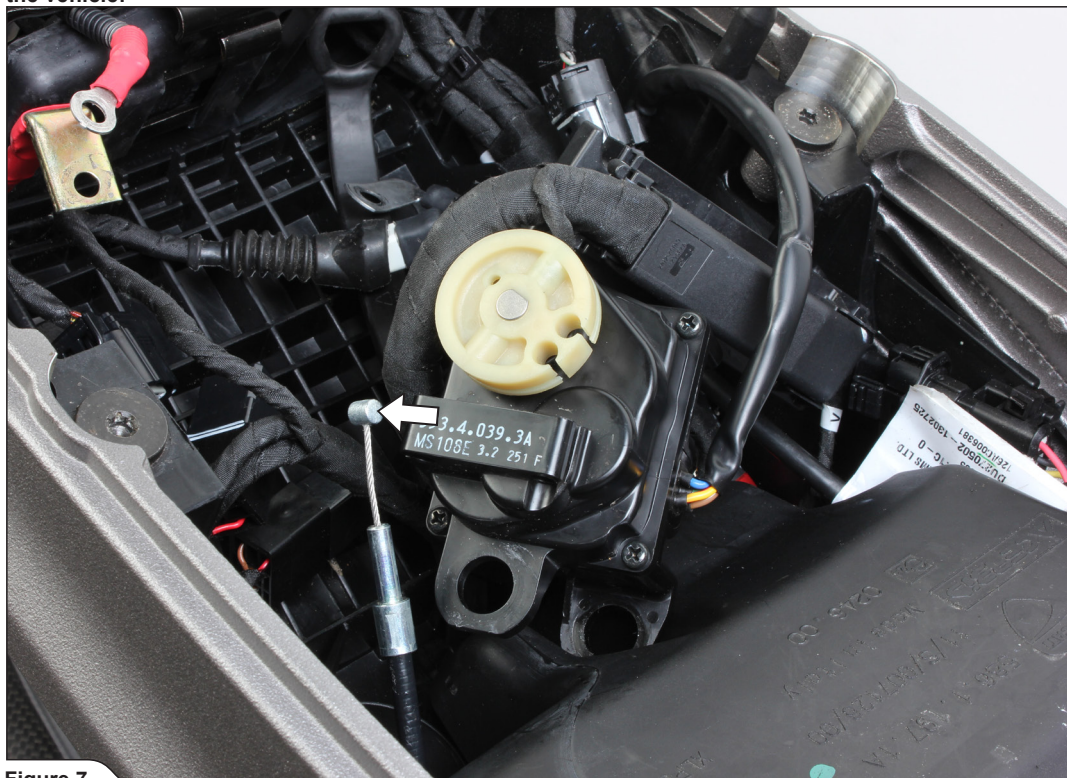

Figure 7
- Carefully extract the servo motor and remove the cable (**Figure 7**).